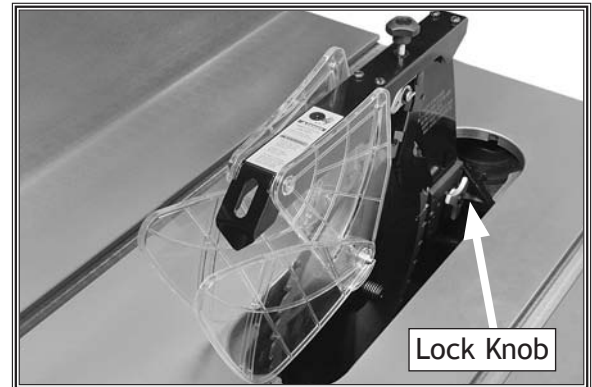

Figure 5. Location to secure blade guard.
3. Insert the spreader into the bracket slot and tighten the lock knob shown in **Figure 5** to secure the spreader.